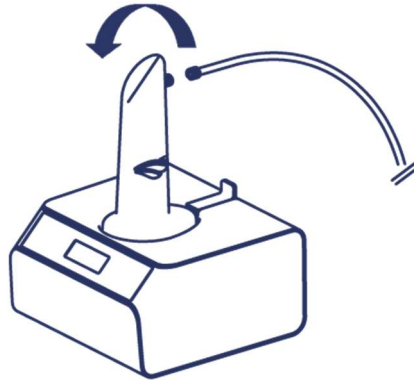

Figure 13 – Attach Delivery Line to Mist Stack
3. Thread the Delivery Line's Female Luer onto the Mist Stack's Male Luer by turning the luer clockwise (Figure 13).